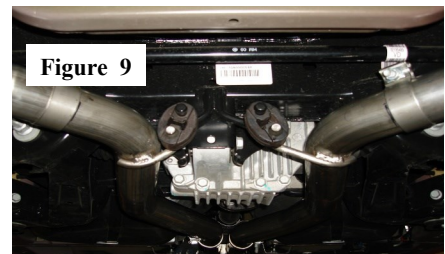

Figure 9
8. Assemble **R/H Rear Muffler Assembly** making sure to install the hangars into the rubber isolators and at mufflers. Repeat for the **L/H Rear Muffler Assembly**. (See Fig.9)